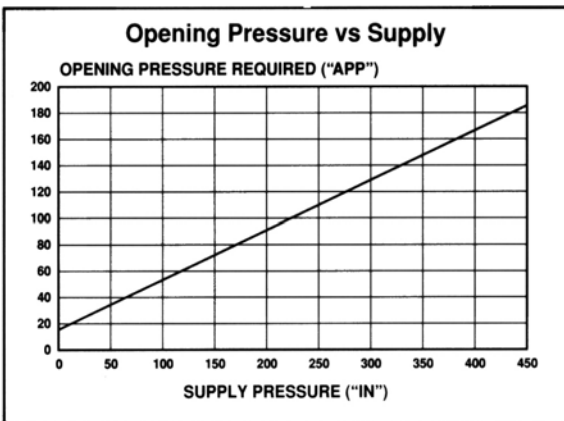

Figure 3. Opening Pressure vs. Supply
- a. Air is supplied to the Applied Pressure Port (APP), which forces the piston to the open position. The pressure required to open the relay valve is based on the supply pressure. See figure 3.